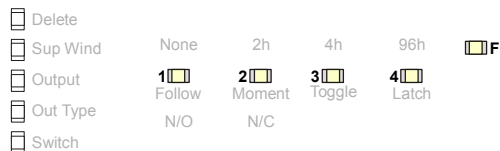

Figure 4 Select the Output to Program
2. Use the **Advance** button to select any of the four transmitter points or the fault output (Fig. 4):